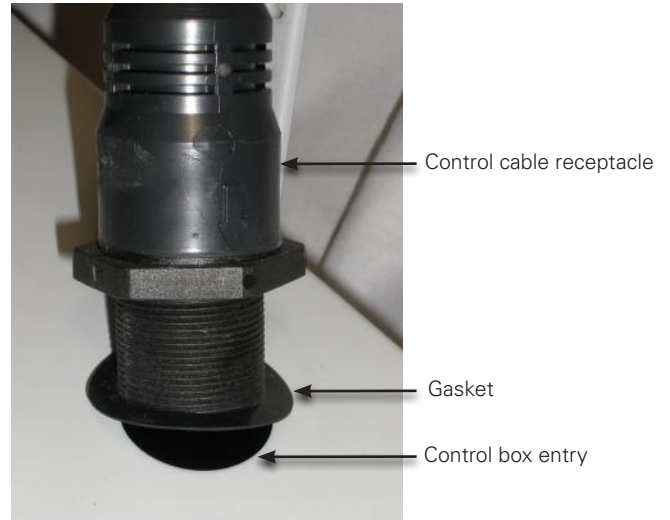

Figure 3. Installation of control cable.
2. With the gasket located around the outside of the entry hole, insert the threaded portion of the control cable as shown in Figure 3.